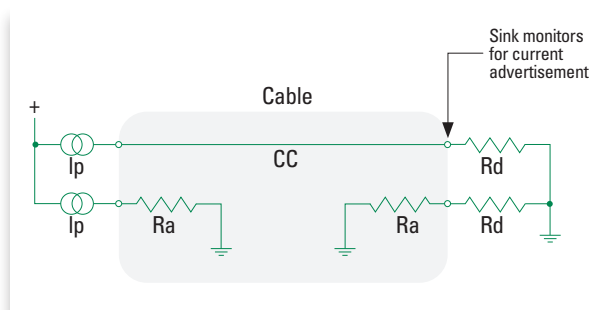

Figure A1. Sink monitoring for current in current source/pull-down CC model
1. The Source provides a current Source as seen in Figure A1.